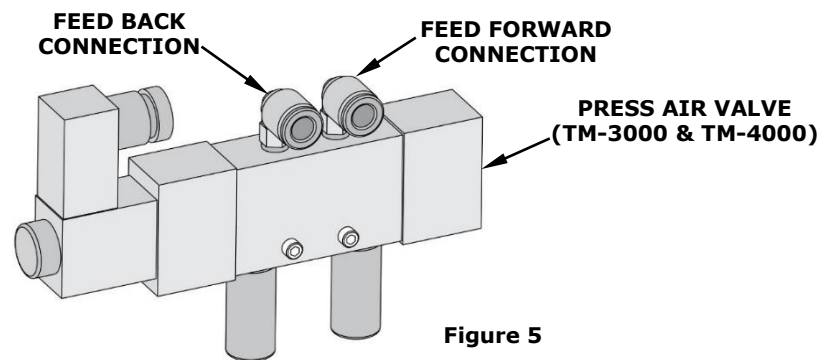

Figure 5
- When using the TM-3000 or TM-4000 presses, connect the tubes to the press air valve as shown in Figure 5.